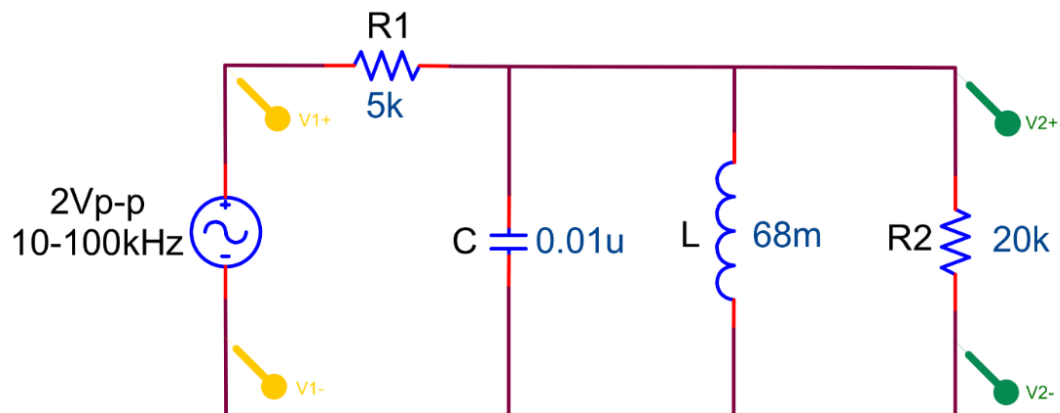

Figure 15.7
- Construct the circuit of Figure 15.7. Vary the frequency from 10Hz to 100kHz and use the oscilloscope to measure the magnitude of V2. Make sure that the input voltage remains constant throughout the measurements. Plot the magnitude of V2 vs. frequency on semi-log graph (frequency on log scale).
3. Use the AC analysis of SPICE to plot the magnitude of V2 versus frequency for Figure 15.7. How do your results compare to those obtained in part a?